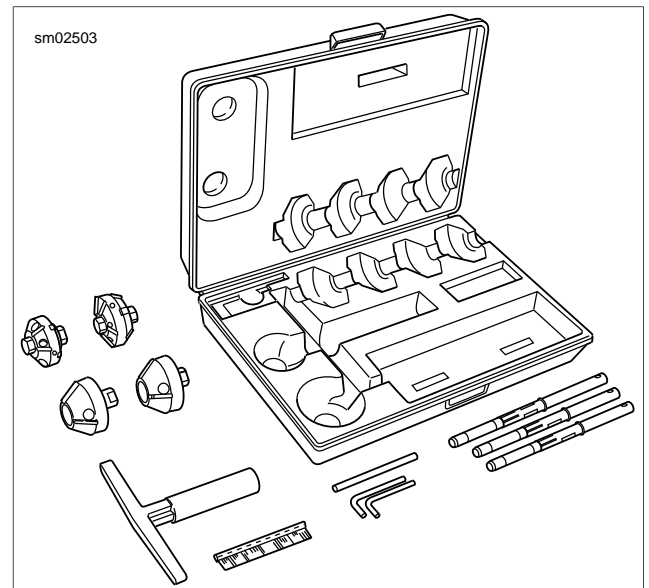

Figure 3-95. Neway Valve Seat Cutter Set
9. See Figure 3-95. Obtain the NEWAY VALVE SEAT CUTTER SET (Part No. HD-35758-C). Choose the cutter pilot that fits properly into the valve guide hole. Securely seat the pilot by pushing down and turning using the installation tool supplied in the tool set.